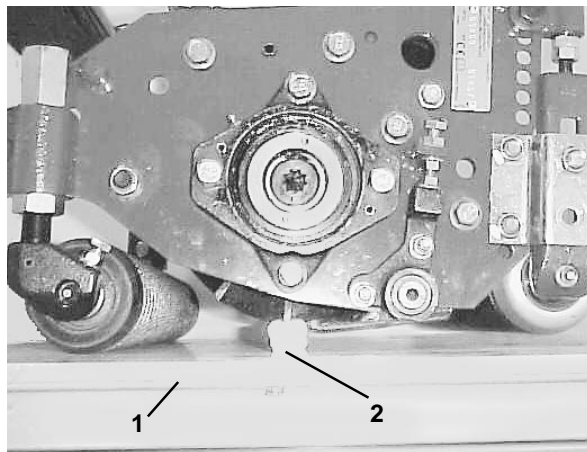

Figure 20
2. Position a 1/2" (13 mm) or thicker bar under the reel blades and against the cutting edge of the bedknife. Make sure the bar covers the full length of the reel blades. The rear roller should not contact the surface (Fig. 20).
3. Rock the cutting unit forward (on the reel blades and steel bar) until the front roller contacts the flat surface. The reel blades and bedknife must maintain contact with the bar (Fig. 20).